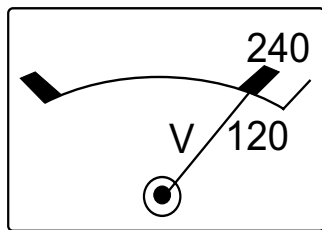

Figure 43. AC Voltmeter (120/240V)
4. Also verify that the AC voltmeter is registering a voltage reading as indicated by Figure 43.
9. Verify that the AC voltmeter is registering a voltage reading as indicated by Figure 43.